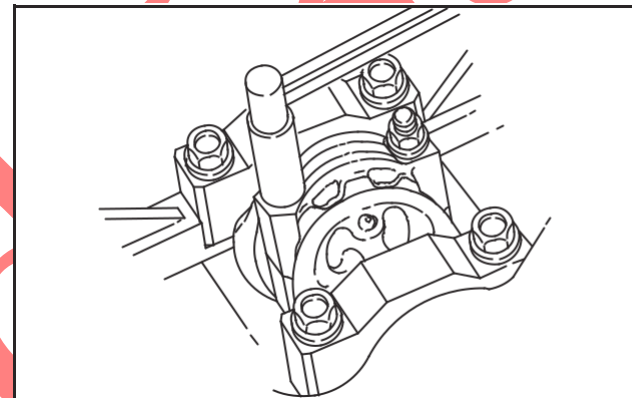

Fig. 8 – Torque Rod Cap
2. Assemble connecting rod cap with bearing and torque to 36.0 Nm (320 in. lbs.), Fig. 8.